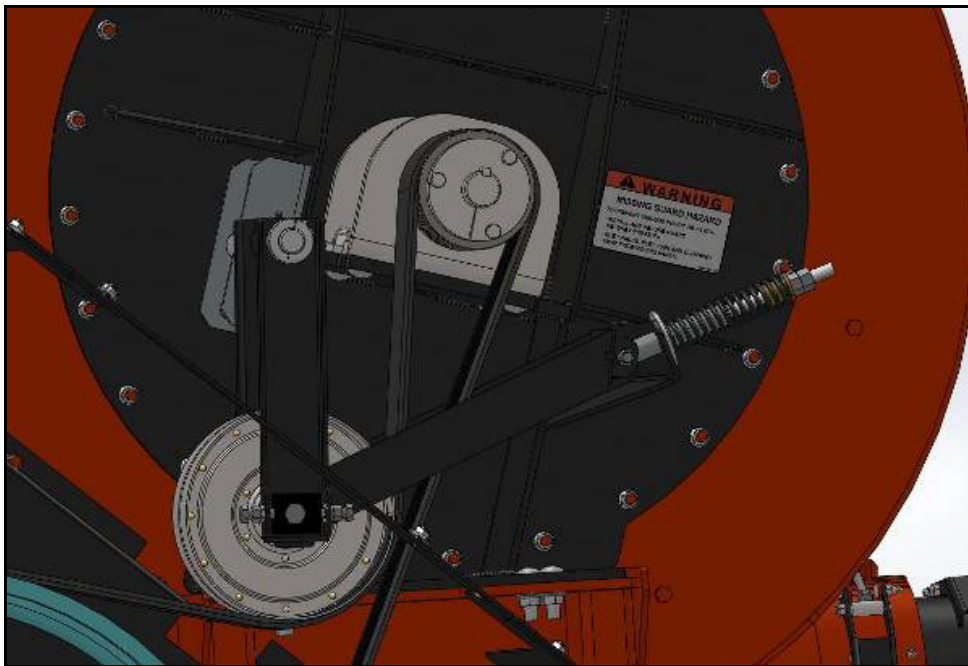

Figure 5.7 Tightener Spring Setting
7. Tighten the idler arm so the length of the spring is 3-7/8" (98 mm) from spring end to spring end (see Figure 5.7).